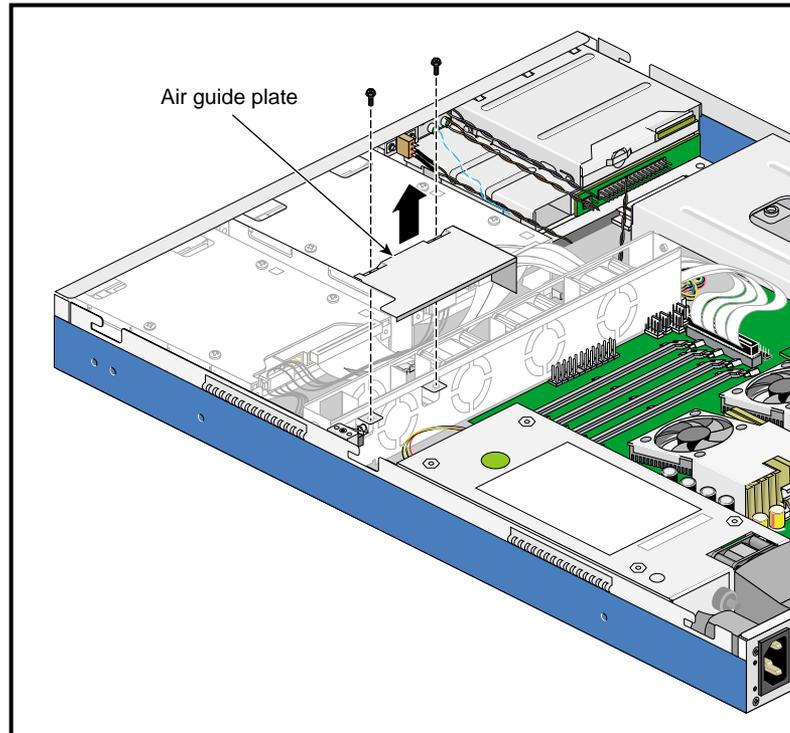

Figure 2-42 Removing the Air Guide Plate
5. Remove the metal air guide plate by releasing the two screws as shown in Figure 2-42.